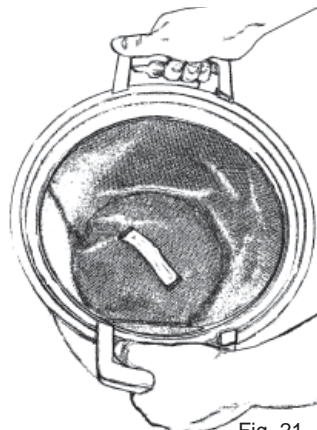

Fig. 21
2. Do not remove the filter from the container. Instead, give the filter a light shaking inside the container to loosen dust from the filter allowing it to fall into the container, Fig. 21.
2. Replace the cleaned/shaken bag filter in the container. Make sure the filter support fits into the inner edge of the dust container properly. Check that the filter is fitted the right way up - the cloth handle on the filter should be visible, Fig. 21.